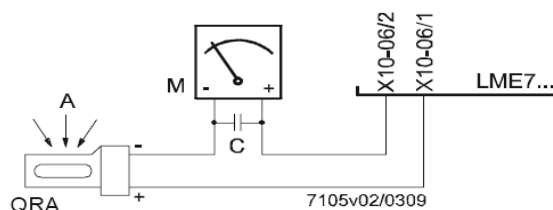

Fig. 7: Detection by photocell QRA..
4. VD can be mounted rotated by 180°, fig. 7.